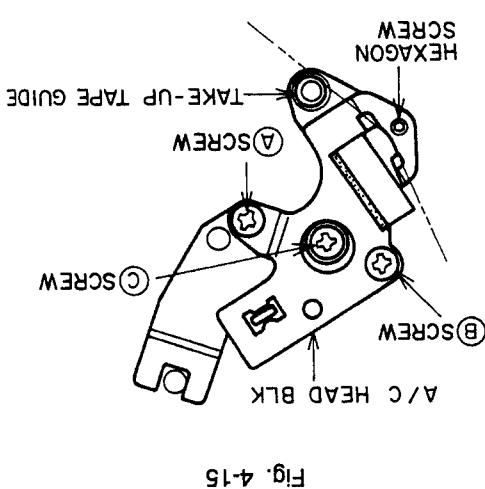

Fig. 4-15
- Press the "<" or ">" cursor button on the remote control until the "X" mark can be seen in the centre position of the tracking range on the TV screen as shown in Fig. 4-15.